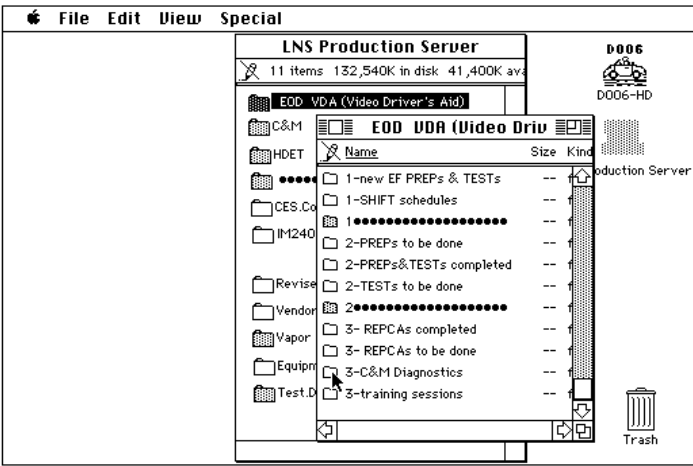

Figure 5
7.25.6 Double click on the “C&M Diagnostic” folder (see figure 5).